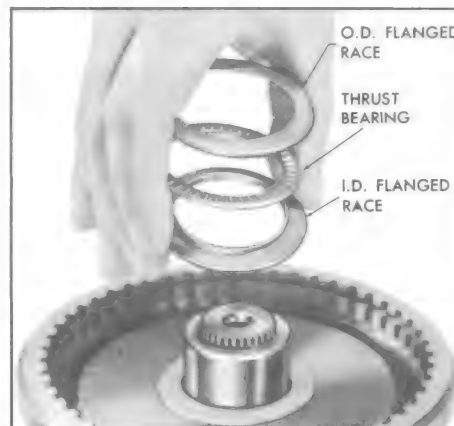

Figure 5-565
10. Remove output shaft to rear internal gear thrust bearing and two (2) races. See Figure 5-565.